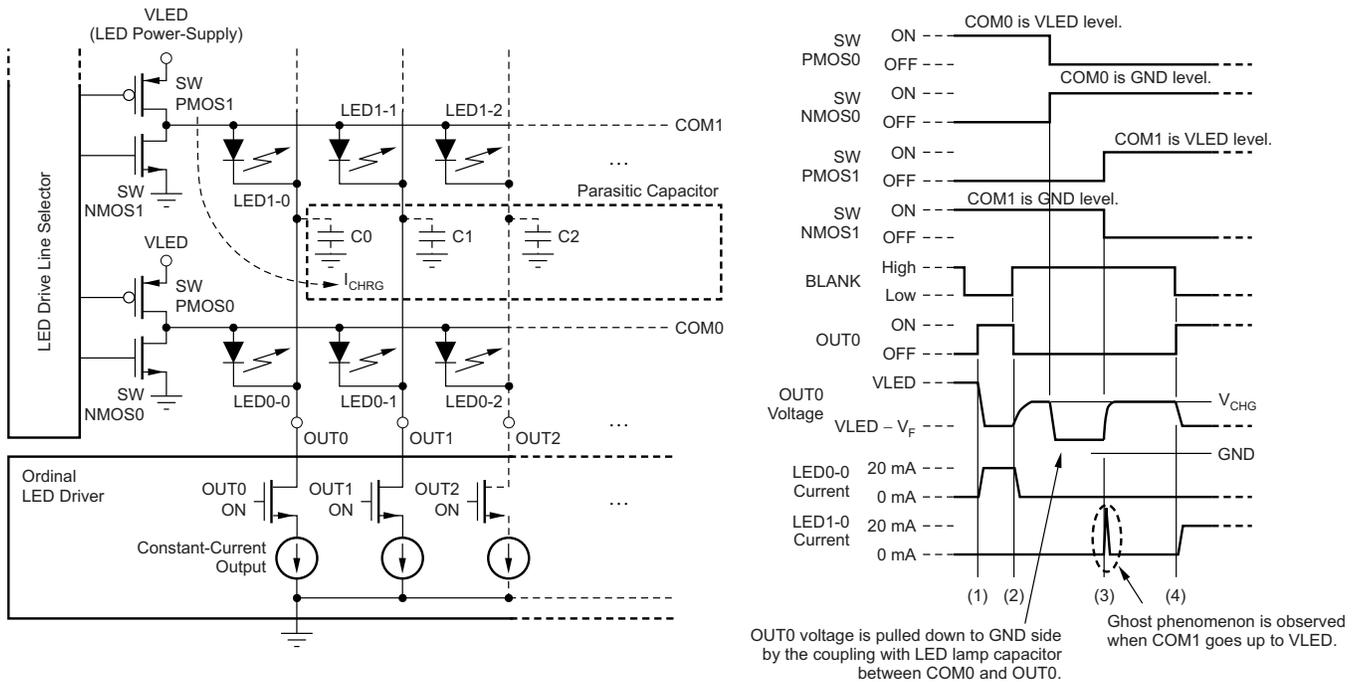

Figure 23. LED Ghost-Lighting Phenomenon Mechanism
The internal pre-charge FET prevents ghosting of multiplexed LED modules. One cause of this phenomenon is the parasitic capacitance charging current of the constant-current outputs (OUT_n) and PCB wiring connected to OUT_n through the LED. One of the mechanisms is shown in Figure 23.
In Figure 23, the constant-current driver turns LED0-0 on at (1) and off at (2). After LED0-0 is turned off, the OUT_0 voltage is pulled up to V_{CHG} by LED0-0. This OUT_0 node has some parasitic capacitance (such as the constant-current driver output capacitance and the board layout capacitance shown as C0-2). After LED0-0 turns off, SWPMOS0 is turned off, SWNMOS0 is turned on for COM0, and COM0 is pulled down to GND. Because there is a parasitic capacitance between COM0 and OUT_0 , the OUT_0 voltage is also pulled down to GND. Afterwards, SWPMOS1 is turned on for the next common line (COM1). When SWPMOS1 turns on, the OUT_0 voltage is pulled up from the ground voltage to $V_{LED} - V_F$. The charge current (I_{CHRG}) flows to the parasitic capacitor (C0) through LED1-0, causing the LED to briefly turn on and creating a ghosting effect of LED1-0.